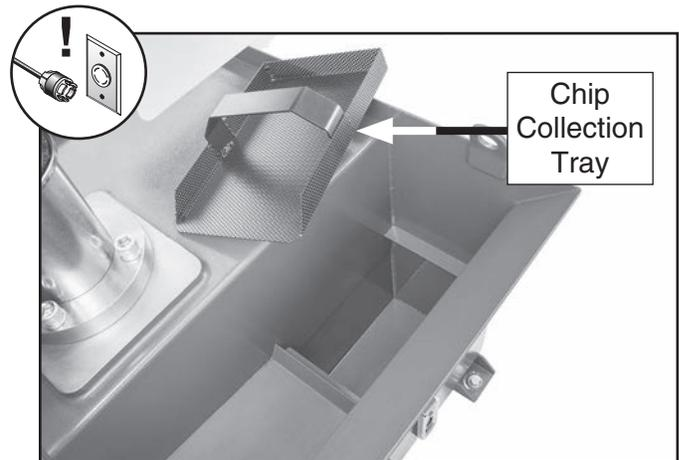

Figure 72. Chip collection tray removed.
2. Remove chip collection tray from machine base (see **Figure 72**) and clean chip collection tray.